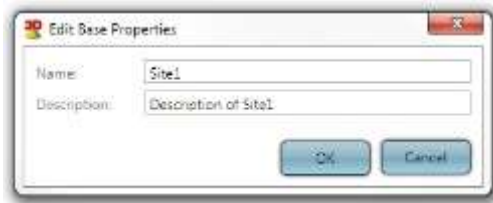

Figure 18: Edit Base Properties box
- 3 Click Parameters to open the Parameters tab and to configure the scanner parameters (Figure 18). Choose the Connection Type (HART, RS-485 or TCP/IP. Other unsupported types are visible but not selectable), the Serial COM port and polling address.